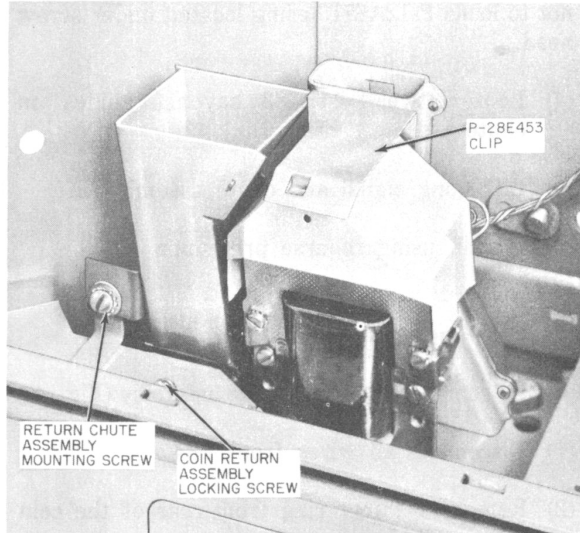

Fig. 11—Coin Relay and Return Chute Assembly
4.11 To remove return chute assembly (Fig. 11):
4.13 To remove coin relay (Fig. 11):
- (3) Install dust cover and P-28E453 clip (Fig. 11).
- (4) Install return chute assembly (4.12).
- (2) Remove coin return assembly locking screw (Fig.11).
- (3) Insert finger in coin return and tilt top forward.
- (4) Lift coin return. Pull coin return assembly out and up.